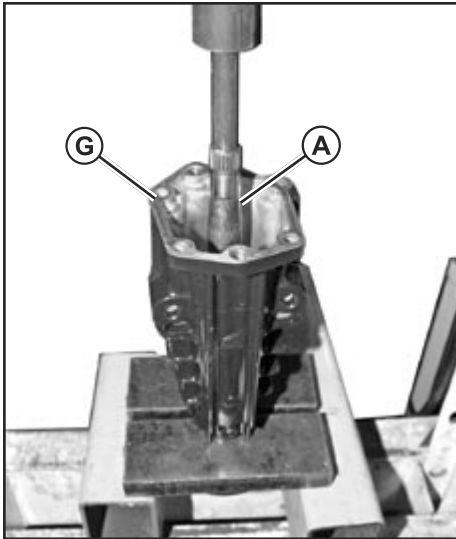

Fig. 75, Rear Axle Disassembly
2. Use a press to remove axle shaft (A) from axle housing (G). (Fig. 75)